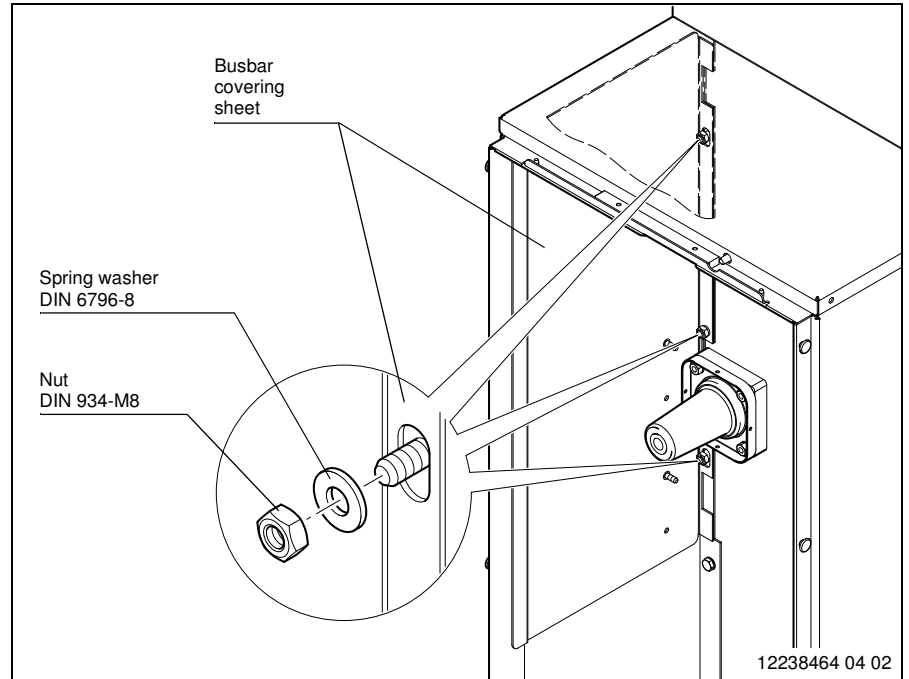

Fig. 16
- Attach the busbar covering sheet on the previously loosened screws according to Fig. 16. Use the provided spring washers DIN 6796-8 instead of the contact washers.